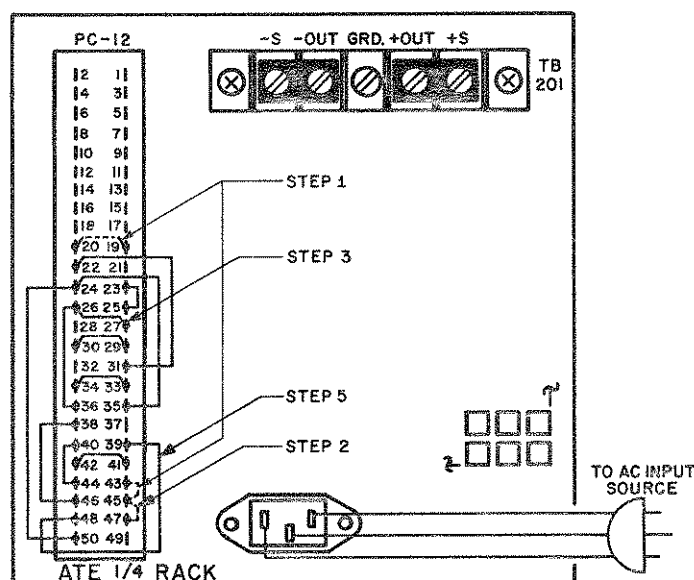

FIG. 2-6 REQUIRED STEPS FOR ATE
- 2-17 MANUAL CHANGE-OVER, SLOW/FAST MODE. The ATE power supply is normally delivered for operation in the "slow" mode. By changing jumper connections at the rear of the power supply, the user can quickly convert from the "slow" mode to the "fast" mode or vice versa (See FIG. 2-6).
- 2-18 PRECAUTIONS. The output capacitor, and to a lesser extent, the feedback capacitor of a power supply, control the programming speed and the current mode recovery time. The removal of these capacitors in the fast mode results in greatly improved power supply performance in these areas. The power supply's dynamic stability, however, is reduced, making the output sensitive to the load phase angle. For this reason, the load presented to the power supply in the fast mode must not contain excessive capacitance (limit: 1000pF). Also, with the output and main feedback capacitors removed, there will be an increase in the output noise, mainly high frequency noise and pick-up, so that external shielding of programming leads and good grounding practices assume added importance in the fast mode operation. See also note in FIG. 2-6.